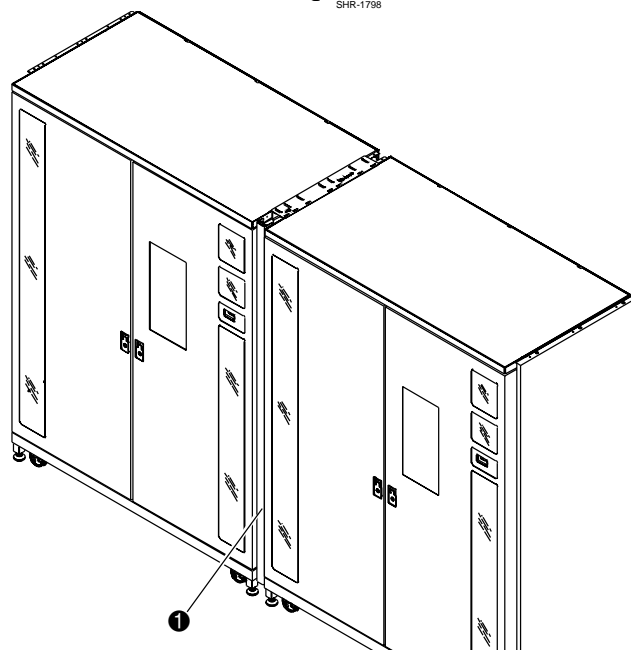

Figure 32: Installing the front cosmetic panel
9. Install the cosmetic panel assembly into the front gap between the libraries (1 Figure 32 on page 61). Ensure sure that the open slots in the cosmetic angles engage all four screws (2 Figure 3 on page 21).
- ❶ Front cosmetic panel installed